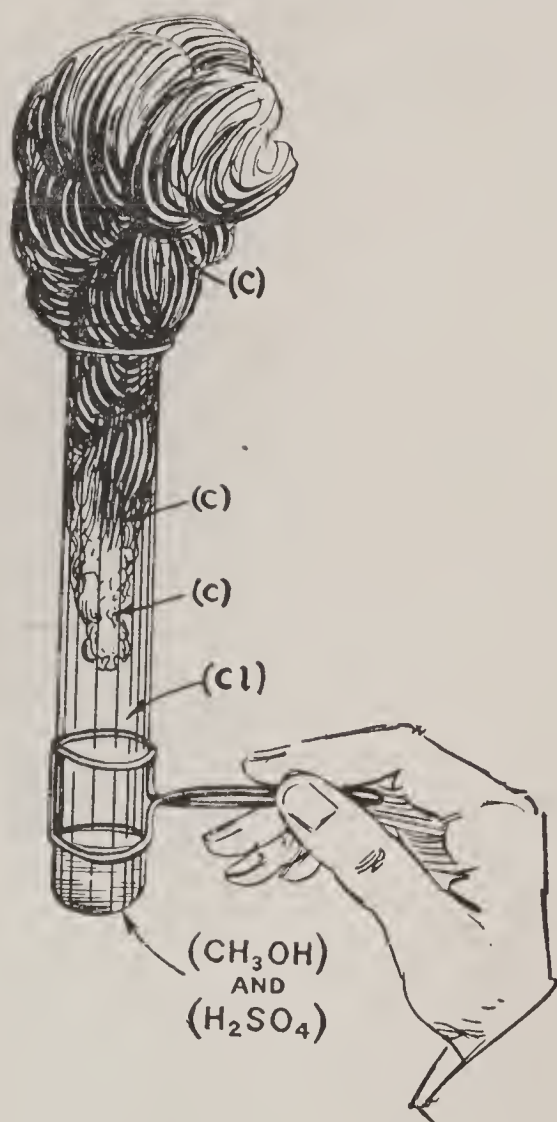

FIG. 95.—How to Make a Smoke Screen.
into a long test tube, then add 1 ounce of sulphuric acid (H_2SO_4) and heat them over the flame of your alcohol lamp. This done, grease the mouth of the test tube so that an air-tight joint can be made, and pour some chlorine (Cl) gas into the tube, put a piece of glass on top of it, and shake it well. The next step is to take off the glass and light the gas in the tube, upon which a great cloud of dense black smoke will be formed by the carbon (C) which is set free, as shown in Fig. 95. While the gas is burning, you will hear an ominous noise like that of a miniature earthquake as the flame moves down from the mouth to the bottom of the tube.